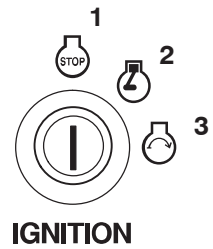

Figure 13
3. Let the engine idle for 60 seconds (Fig. 13).
4. Turn the ignition key to the off position and remove the key (Fig. 13).